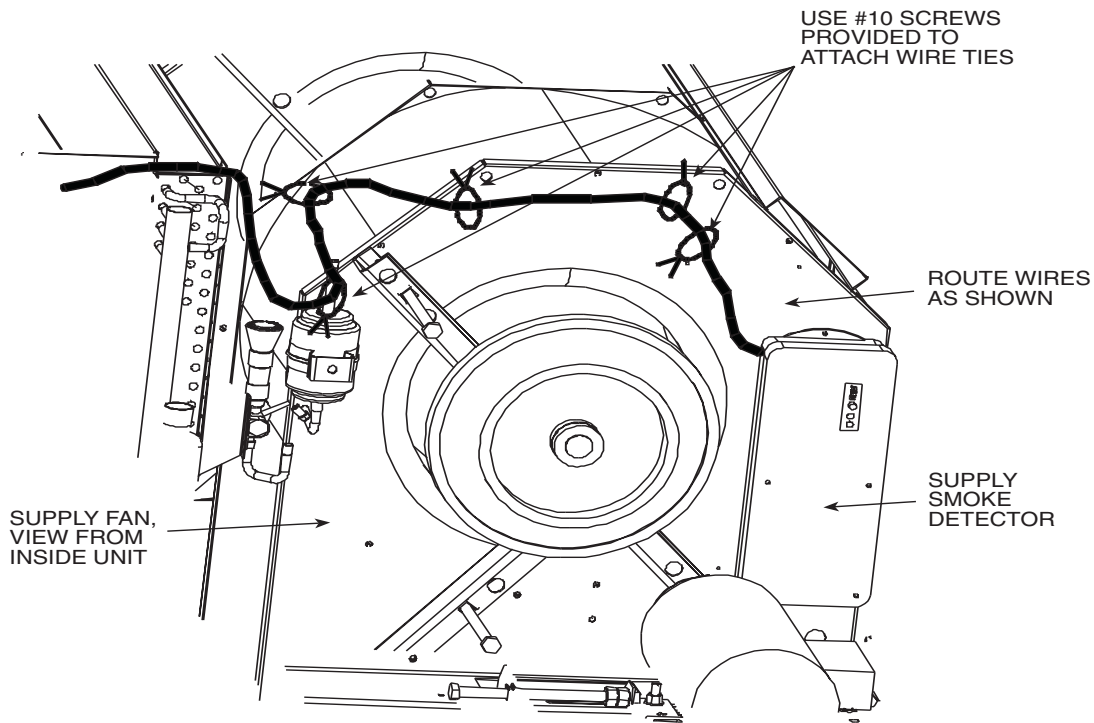

Fig. 5 — Supply Smoke Detector Location and Wire Routing
The supply air smoke detector is to be installed in the pre-drilled holes located on the front of the first indoor blower (Fig. 5).
15. Attach wire harness to fan side plate using the 4 screw wire ties and no. 10 screws provided. See Fig. 5 for clarification.
17. Attach wire harness to top of Circuit C filter drier (and point B if two circuits) in Fig. 5, using wire tie provided. Make sure that the wire harness is tight.
top of the filter section, down the outside of the control box and through the snap bushing. See Fig. 5 and 6.
20. Connect wires to terminal strips as shown in Fig. 5 and 6.